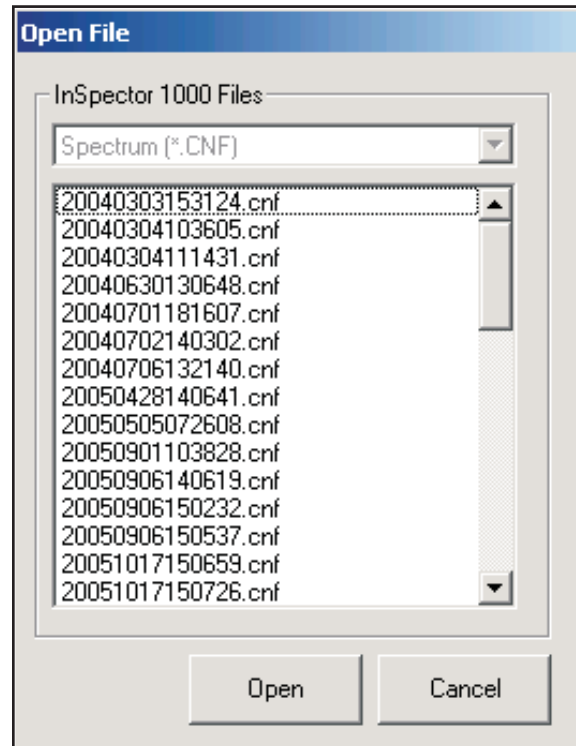

Figure 91 The View Files List
2. A list of the InSpector's spectrum files will be displayed (Figure 91). Highlight a file then select **Open**